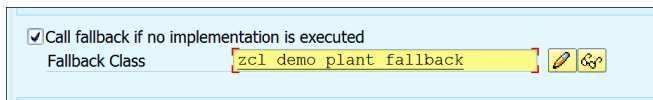

Figure 20.48 Fallback Class
1. Double-click the BAdI definition in the enhancement spot. Select the **CALL FALLBACK IF NO IMPLEMENTATION IS EXECUTED** checkbox to enable the **FALLBACK CLASS** field, in which you can input the class name and click the pencil icon to create the class (see Figure 20.48).